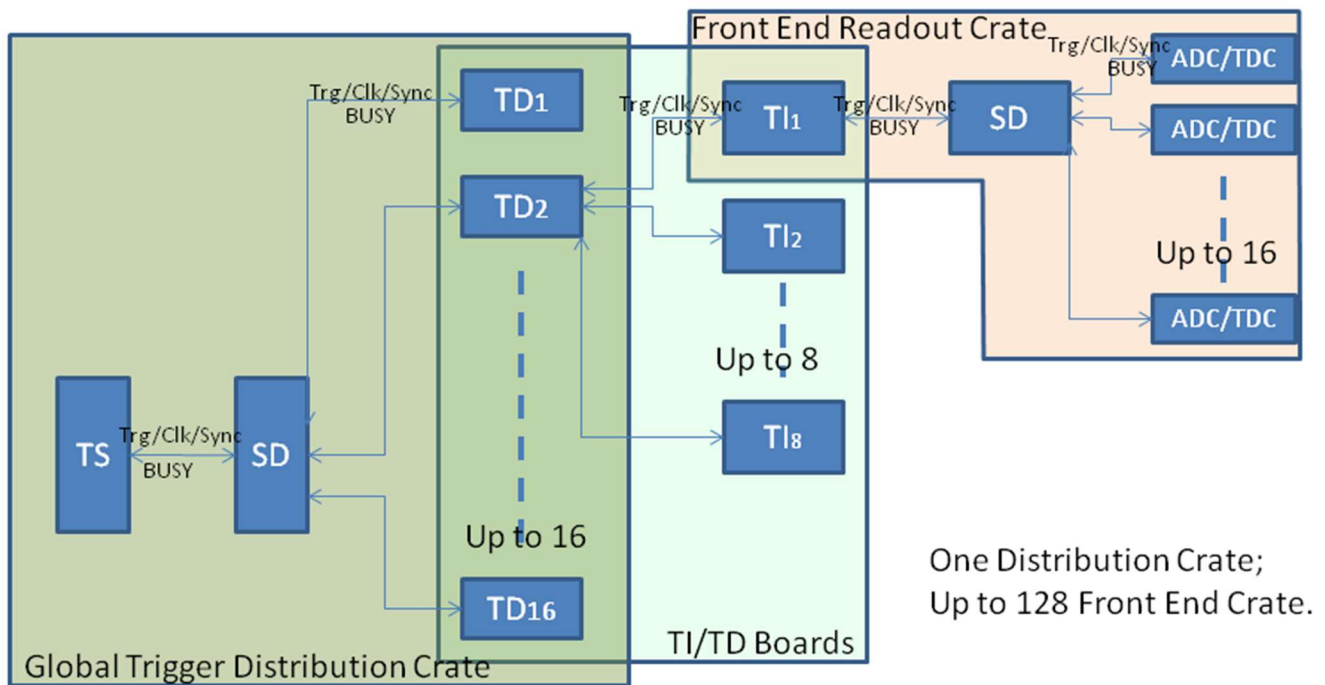

Figure 1 Trigger/Clock/Sync distribution system
The Trigger Interface (TI) module is being designed for the Jefferson Lab 12GeV upgrade, mainly for HallD [(Collaboration G. , 2009)] and Hall-B [(Collaboration C. , 2009)], with other experimental Halls [(experiments, 1990)] compatibility. The VXS TI boards are located in data acquisition frontend crates, and are responsible for providing a low-jitter system clock, sync signals and fixed latency trigger signals for the Front-end readout boards in the crates. The modules also merge the front-end crate status and generate a BUSY signal to request the Trigger Supervisor (TS) to pause the trigger. For the detailed description, refer to the Trigger Distribution system design document [Trigger Distribution]. The PCIexpress TI (TIpcie) board is based on the VXS TI board. Instead of VME64x, the TIpcie will be plugged into a PCIexpress slot in a computer, communicates through PCIexpress. Figure 1 shows the placement of the TI modules in the global trigger distribution scheme in experiment setup.